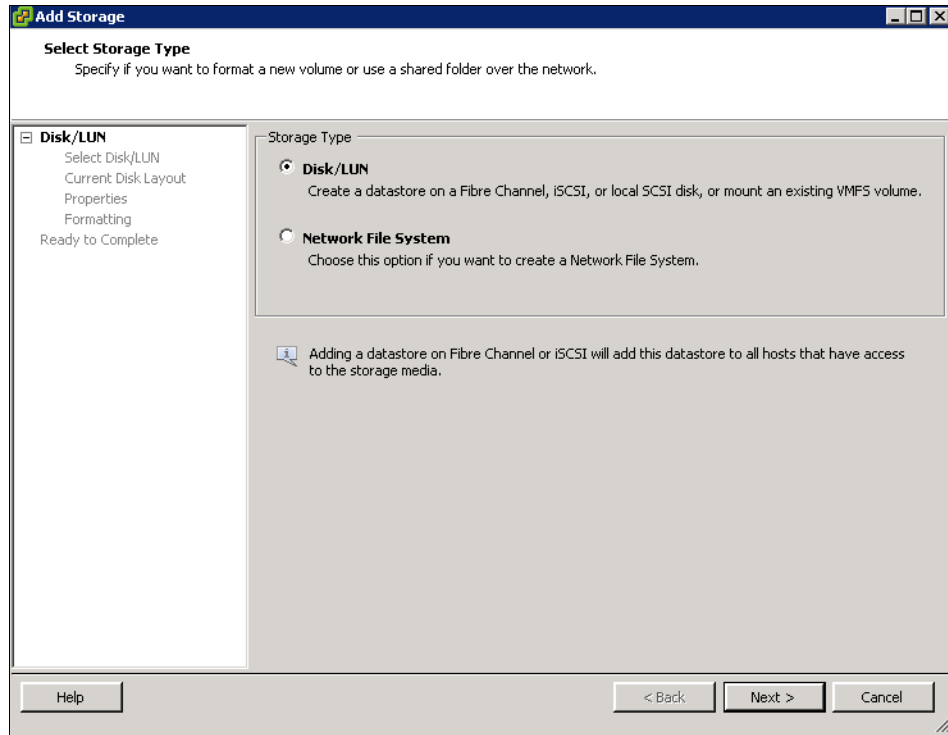

Figure 12-55 Select Disk/LUN menu
7. The Add Storage wizard opens (Figure 12-55). Select **Disk/LUN** and click **Next**.